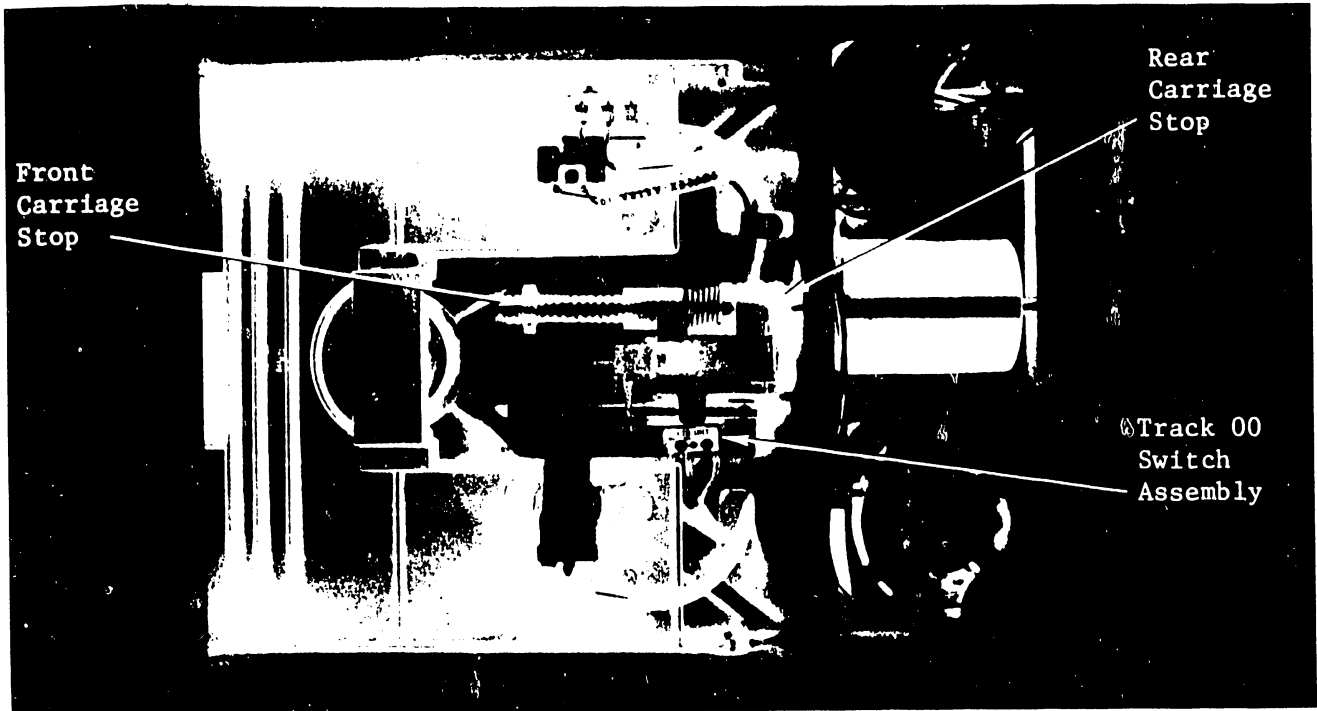

FIGURE 15
- 3) Loosen rear carriage stop set screw (Figure 15).
#### 5.5 TRACK 00 SWITCH ASSEMBLY (See Figure 15)